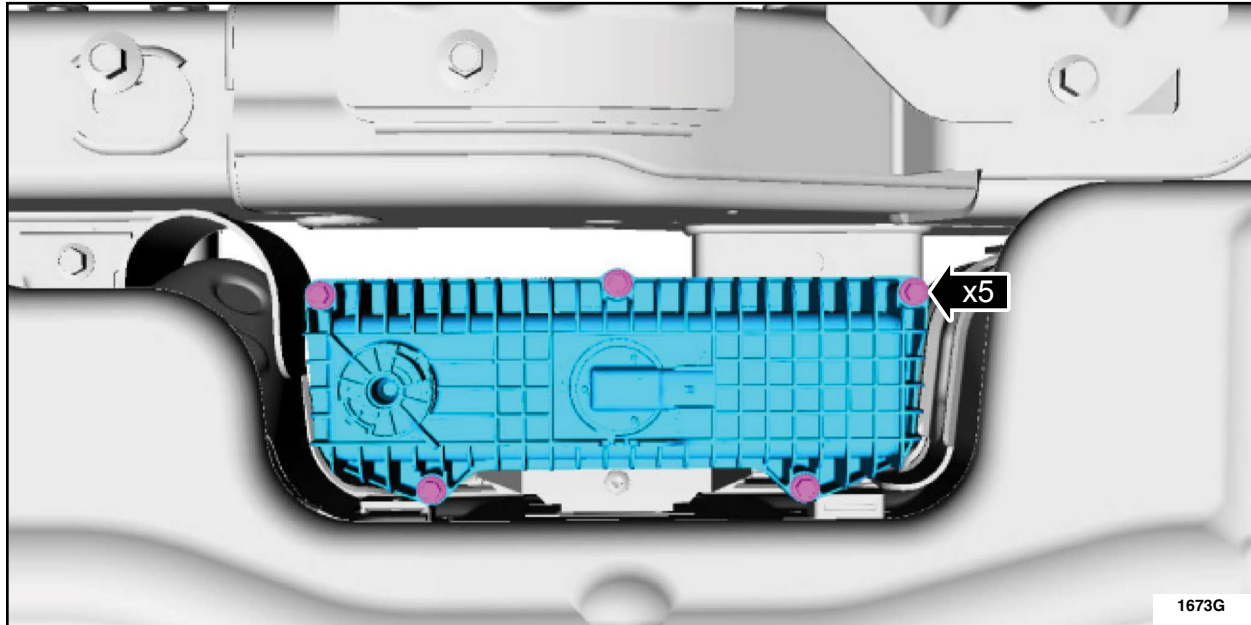

FIGURE 4
7. Loosen the bolts and remove the fuel conditioning module bottom cover. See Figure 4.